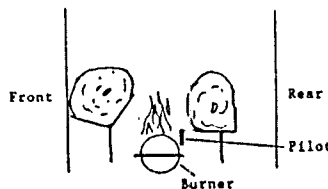

Figure 18
- A - Front log has saw blade looking mark on it. See figure 18.
- C & D - Position C, D, as shown in figure 18.
- E - As shown in figure 18.
- F - At rear as shown, figure 18.